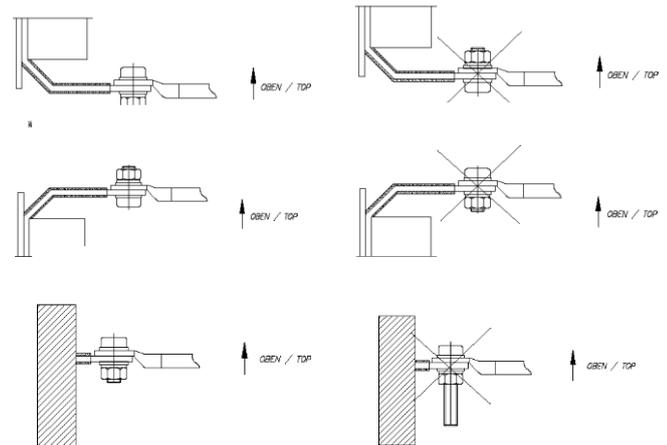

Figure 1: Principle sketches of screw connection at the electrical connection, top or bottom of the coil optional.
The necessary minimum distance due to the electrical range of the connection must be ensured by screwing the cable or rail connection as shown in Figure 1. The cable lug or the connecting rail is screwed on top of the product connection. The position of the screw heads is determined by the position of the winding start. If the start of the winding is at the bottom of the winding, the connection must be made with the screw head at the top (top). If the start of the winding is above the winding, then the screw heads are at the bottom (middle). At the end of the winding, the screw heads are positioned at the top (bottom). The length of the screws should be as short as possible. The maximum screw length in the test is 50 mm.
- Always screw the connection as shown in Figure 1 on the left.
- Use the information provided by Hans von Mangoldt GmbH in Figure 1. When using other screws, make sure that the dimensions are identical.